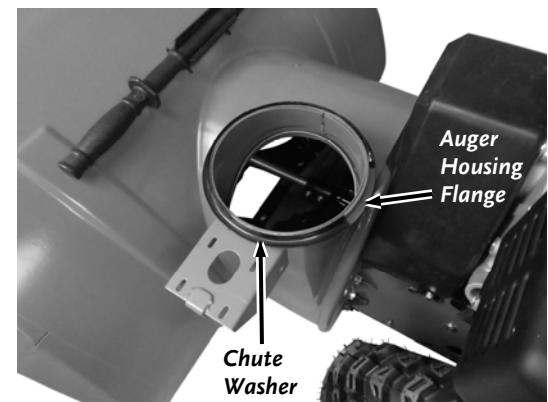

Figure 15
14. Install the Chute Washer onto the Auger Housing Flange (**Figure 15**).